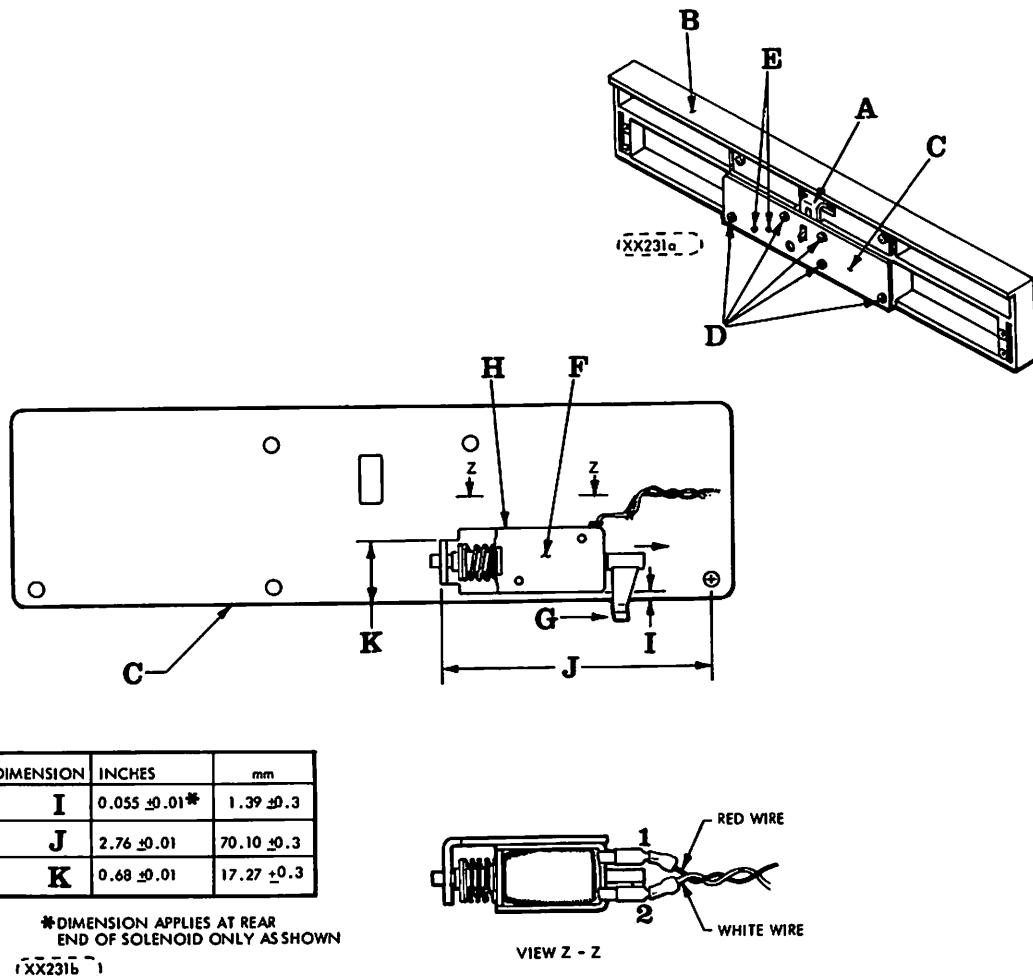

FIGURE 6-20.1. CARTRIDGE ACCESS DOOR SHOWING LATCH LOCK SOLENOID
Refer to Figure 6-20.1 for visualization of the part names used in the description.
- c. Refer to Figure 2-1. Lift on the door release slide (A) and pull open the cartridge access door (B) in Figure 6-20.1. If door will not open refer to Section 2.8.2. Proceed with next step when the door has been opened and AC power is removed.
- d. Remove the five screws (D) using a 1/4 inch nut driver. Save the screws.
- e. Move tab (G) in direction shown by arrow in order to retract solenoid plunger.
- f. While holding the solenoid plunger retracted, lift latch cover plate (C) from the door (B).
- g. Remove the wires from the solenoid (F) electrical connection tabs.
- h. Remove the two screws (E) which secure the solenoid (F) to the cover plate. Discard the old solenoid but retain the bracket (H).
- i. Install the new solenoid to the cover plate (C) using bracket (H) and secure with the two screws (E).
- j. Adjust the positions of the solenoid and bracket to the dimensions I, J and K as shown in Figure 6-20.1. Position the solenoid relative to the bracket so that the plunger does not contact its mounting bracket and so the tip of the plunger extends through the hole in the bracket when not retracted but does not extend beyond the end of the bracket when the plunger is retracted.
- l. Connect the two wires which were removed from the old solenoid to the proper tabs as illustrated in View Z - Z in Figure 6-20.1.
- m. Install the latch cover plate assembly to the access door. To do this, lift up on the door release slide (A) and pull back the solenoid plunger so it will clear the shoulder at the bottom of the door release, and then let the solenoid plunger return to resting position when the cover plate is properly in place.
- p. Check to see that the door release slide will operate the release catch properly when the solenoid plunger is pulled back with tab (G).